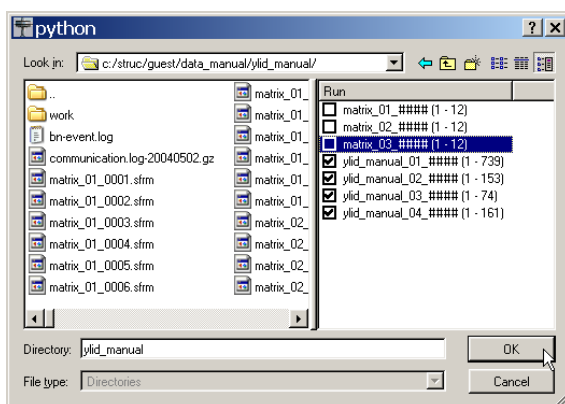

Figure 8.22 - File Selection window with matrix runs deselected
2. To open the File Selection window, left-click on the folder beside the file name. Choose the sets of images that you want to use for the calculation by clicking on the check boxes (see Figure 8.22).